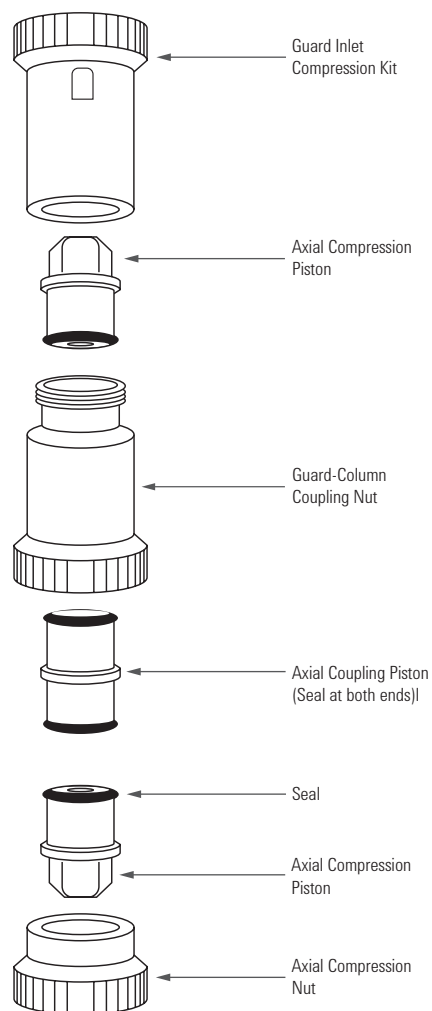

Figure 3. Components of End-fittings Kit No. 2.
- 7.2. Remove the end-fittings kit from its shipping container and check the contents (Fig. 3):
These parts may be identified in Figure 3. Check that all parts have been received and that seals on the axial coupling piston are properly orientated as described in Section 3.3.
An axial coupling piston (Figure 3)
- A guard inlet compression nut (Figure 3)